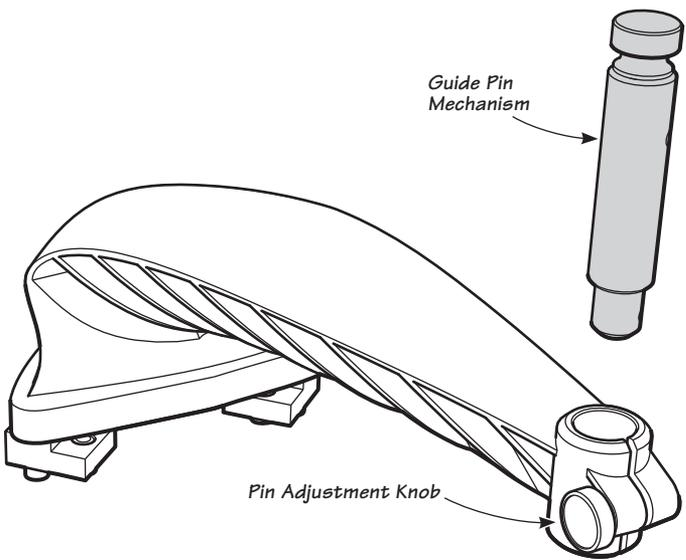

Figure 4: Installing guide pin mechanism into pin router arm.
- Install the guide pin mechanism into the pin router arm and tighten the pin adjustment knob (**Figure 4**).